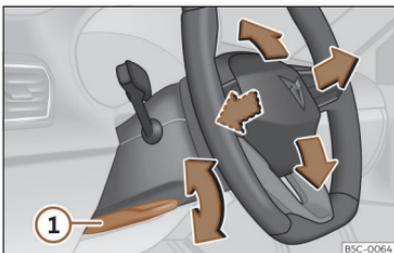

Fig. 94 Lever in the lower left side of the steering column.
- Pull lever >>> **Fig. 94 1** down, move the steering wheel to the desired position and lift the lever back up until it locks.
- After adjusting the steering column, push lever >>> **Fig. 94 1** firmly upwards so that the steering wheel does not accidentally change position while driving.